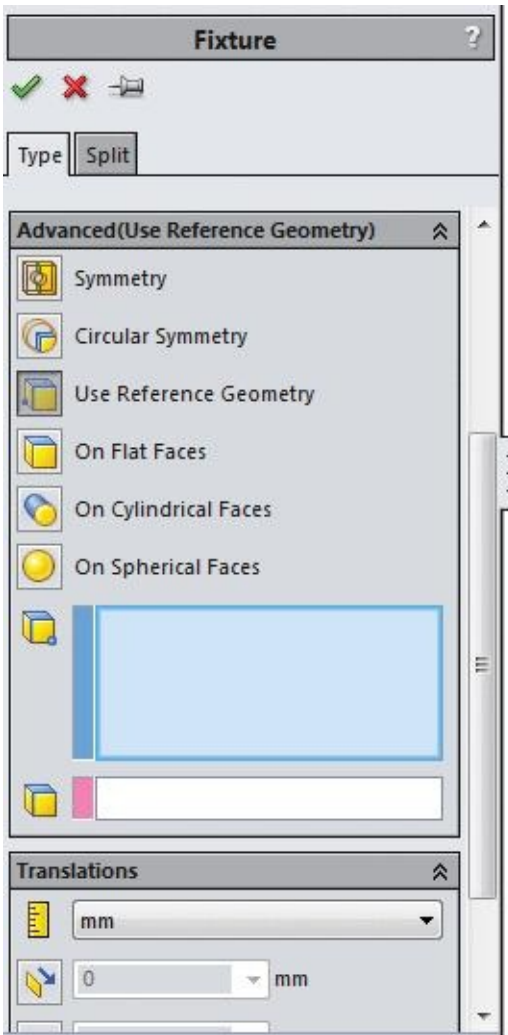

Figure-24. Advanced fixture options
- Click on the **Advanced Fixtures** button from the **Fixtures Advisor** drop-down in the **Ribbon**. The **Fixture PropertyManager** will be displayed as shown in Figure-24.